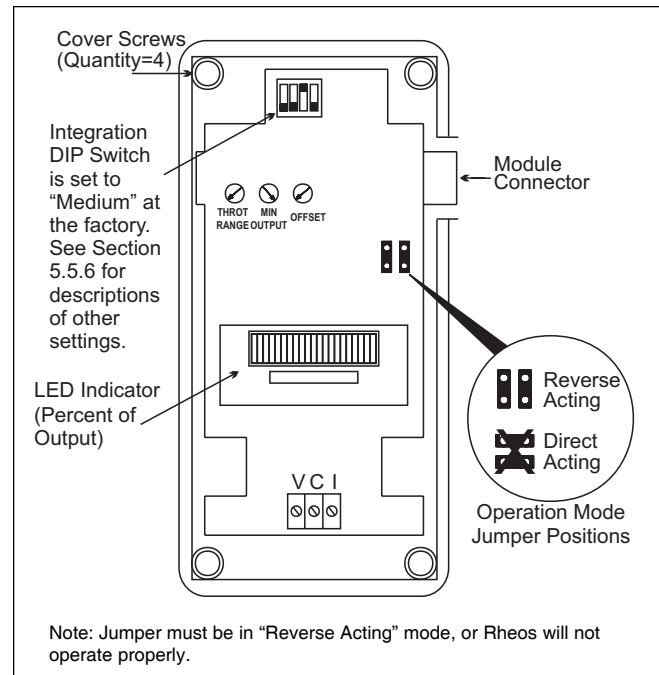

Figure 14. Proportional Control.
The offset can be adjusted between 0°F and 30°F (0°C and 17°C) by removing the cover of the S350P control and adjusting the Offset dial (see Figure 14).
The throttling range is adjustable between 2°F and 30°F (1°C to 17°C). The range can be set by removing the cover of the S350P control and adjusting the "THROT RANGE" dial (see Figure 14).
setting can be adjusted up by removing the cover of the S350P control and adjusting the Min Output dial (see Figure 14). Turning the dial clockwise increases the minimum output. In most cases, this setting should be left as shipped from the factory, with the arrow pointing to the 5 o'clock position.
The proportional control used on the Rheos has internal circuitry that helps to minimize overshoot that can sometimes be associated with proportional plus integral (PI) controls. There are three field-selectable integration constants (slow, medium and fast), and an off position on the proportional control, which are selected with the dials on the control (see Figure 14). In most cases, this setting will not need to be changed